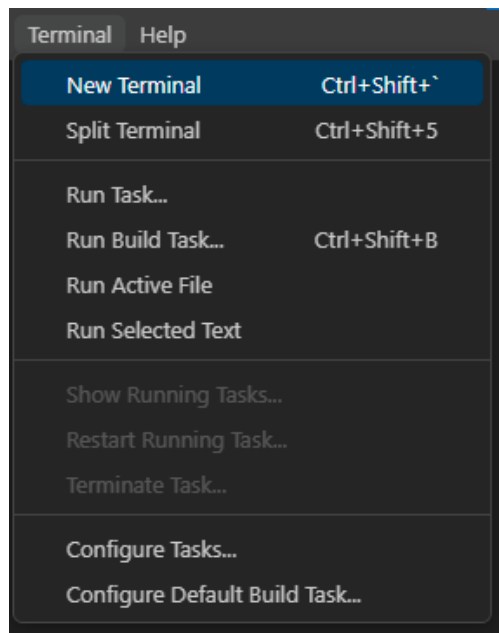

Figure 3: Opening a new terminal on VSCODE.
2. Click on “Terminal”, “New Terminal”, as it is shown in Figure 3: